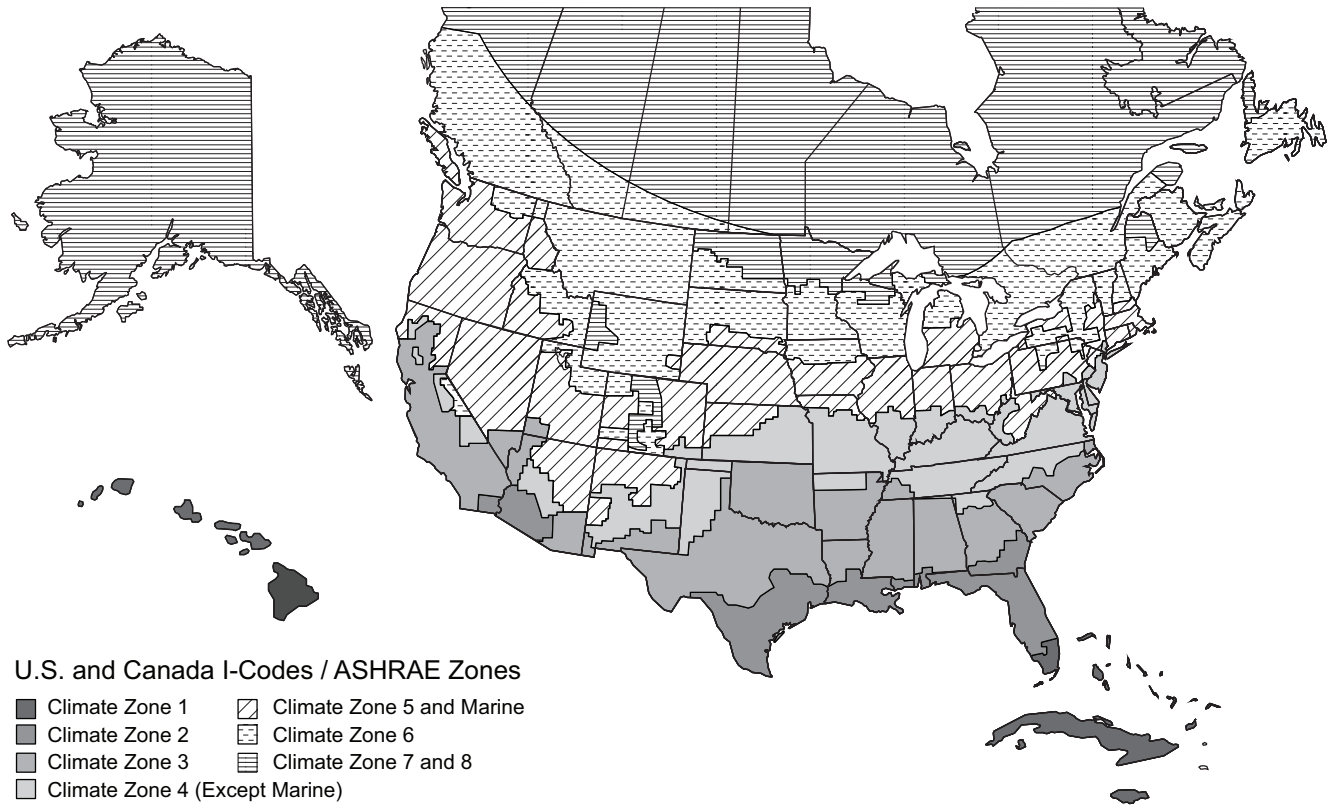

Fig. 68 — U.S. and Canada Climate Zones
- a. See Fig. 68 for map of U.S. and Canada climate zones.